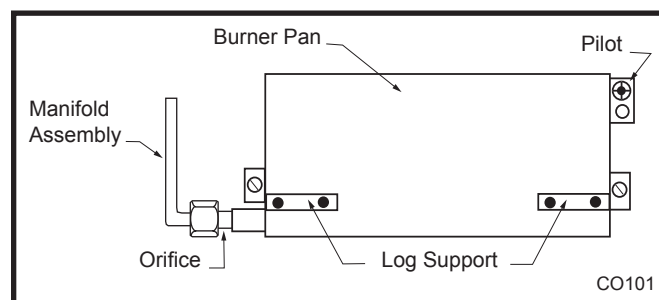

Fig. 61 Remove manifold assembly.
1. Unscrew manifold assembly from burner using 3/4" wrench. (Fig. 61)